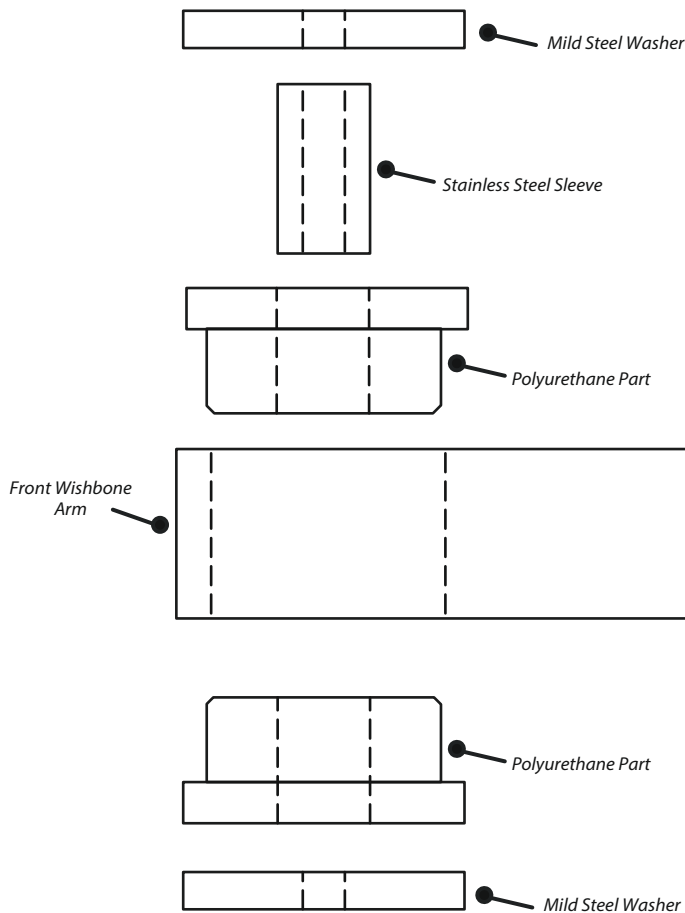

Figure 1
3. Push a polyurethane part into the bore of the arm until it sits on the arm. Push another polyurethane part into the bore from the opposite direction, as shown in figure 1, until it sits on top of the arm.